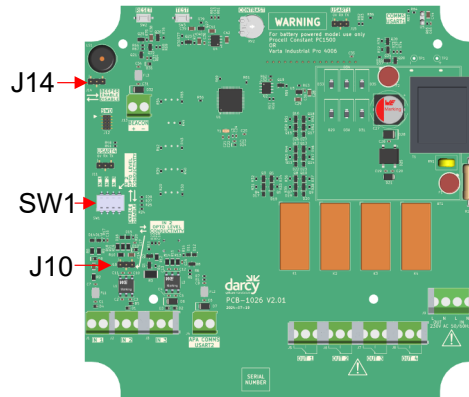

Figure 5: Jumper Link and DIP Switch Settings
8. Set jumper link J10 and SW1, DIP switch 4 according to the probe type being used on probe input IN 2 (J2). See Figure 5.
9. Install the cells in the battery holder, observing correct polarity as marked inside the battery holder. Only use Procell Constant PC1500 or Varta Industrial Pro 4006 LR06 (AA) primary cells.
Refer to Figure 5 for DIP switch settings to enable/disable probes that are in use.